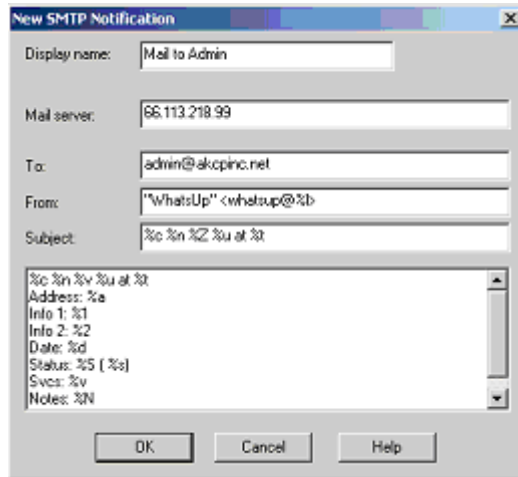

Figure 12 New SMTP Notification dialog box
- 4.3. Press New button to open New SMTP Notification dialog box shown in Figure 12